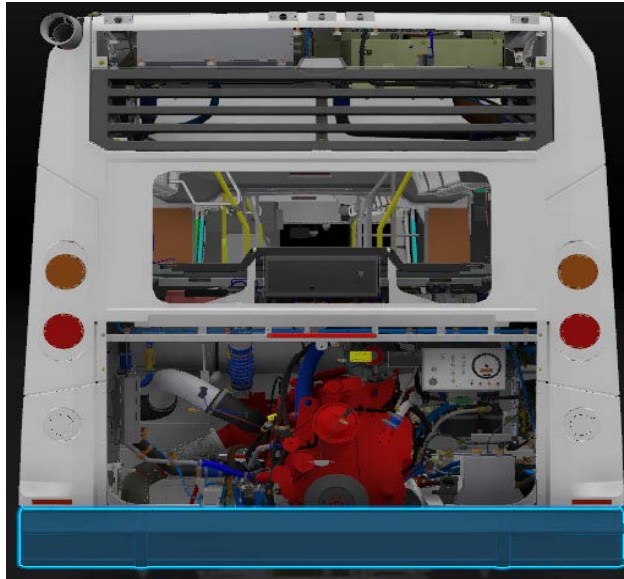

Figure 5 - Rear Bumper
- 1.5. Remove the rear bumper. See Figure 5.